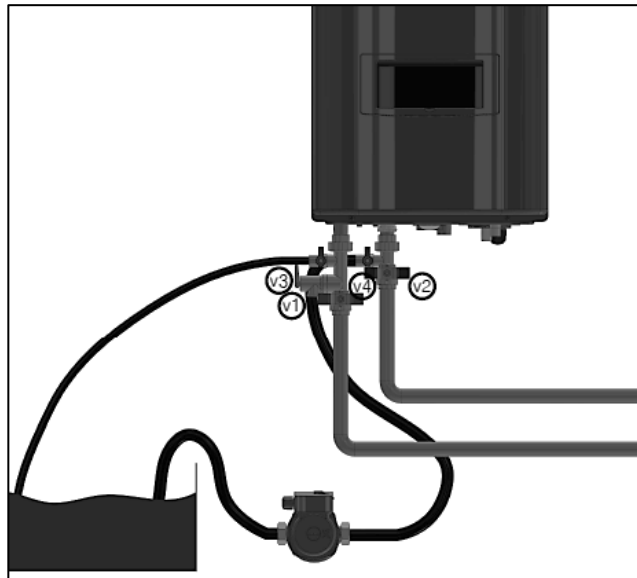

Figure 53 – Valve Detail
2. Close the shutoff valves on both CH supply and CH return lines (V1 and V2). See Figure 53.